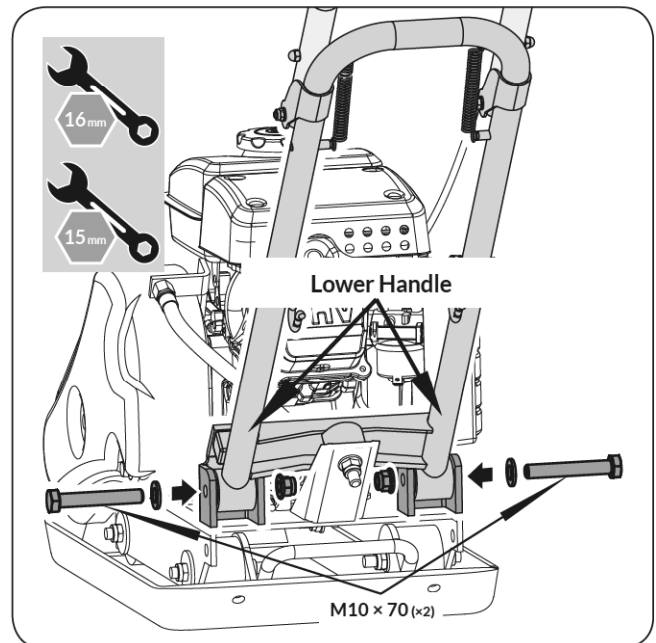

Figure 3b
2. Mount the handle as shown. Slide the handle ends into the engine deck slots. (See **Figure 3b**). Secure with the flat washers, nuts and bolts found in packet #1 of the hardware kit.